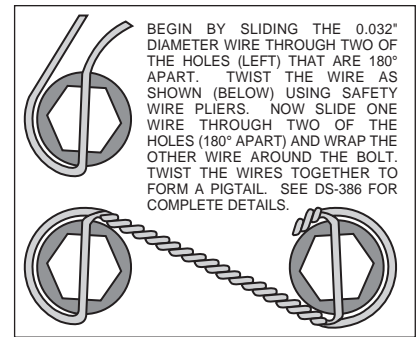

Figure 3. Safety Wire Diagram
- The caliper mount bracket assembly (1) should be installed first with clean, dry threads on the mounting bolts. Install the bracket by sliding bolt (4) through washer (2) from the back side through the lower caliper mounting ear on the spindle. Slide bolt (3) through washer (2) from a 90° degree angle on the upper portion of the steering arm. The bracket must tighten squarely against the outboard side of the caliper mount bosses on the spindle body. Inspect for interference from casting irregularities, machining ridges, burrs, etc. Later, after the caliper, pad, and rotor alignment has been checked, and any necessary shims have been put in place, the threads of the mounting bolts should be coated with red *Loctite*® 271 and torqued to 65 ft-lbs.
- Install wheel studs (5) into the hub (6). Torque to 77 ft-lb. **NOTE:** *There are two (2) five lug patterns in the hub (5 x 4.50 and 5 x 4.75).* Make sure of the correct hole pattern for the correct wheel application before installing studs into hub.
- Pack the large inner bearing cone (7) with high temperature disc brake bearing grease (available from your local auto parts store) and install into the backside of the hub (6).
- Install the grease seal (8) by pressing into the backside of the hub (6).
- Pack the small outer bearing cone (14) with high temperature disc brake bearing grease and install into front of hub (6). Slide the hub assembly (5, 6, 7, 8 and 14) onto the spindle. Secure using spindle washer (15), stock adjusting nut and nut locking device. Adjust bearing using a 12" wrench to tighten the adjusting nut while turning the rotor. When the rotor binds slightly, all the bearing parts are seated properly. Back of the nut 1/6 to 1/4 of a turn or enough to allow 0.001 to 0.007 end play. Lock the nut with a new cotter pin. **WARNING:** *Failure to back off the adjusting nut may cause the bearing to run hot and be damaged, which could cause the wheel to lock or come off during operation, creating a risk of serious bodily harm.*
- Install the o-ring (16) on the dust cap (17), and screw dust cap assembly onto the hub (6). Friction created by the o-ring (16) on the dust cap (17) keeps it from unscrewing.
- With the larger I.D. side of the rotor (9) facing away from the hat (10), bolt rotor (9) to hat(10) through the backside of the rotor using washers (11) and bolts (12). Using an alternating sequence, apply red *Loctite*® 271 to the threads and torque bolts to 155 **in-lb**. For an added measure of security, the bolts may be safety wired using standard 0.032 inch diameter stainless steel safety wire as shown in Figure 3. Please refer to Wilwood's data sheet DS-386 (available at [www.wilwood.com/Pdf/DataSheets/ds386.pdf](http://www.wilwood.com/Pdf/DataSheets/ds386.pdf)) for complete safety wire installation instructions.
- Slide the rotor/hat assembly over the studs (5) in the hub (6) taking care to align the small countersunk holes in the hat (10) with the small threaded holes in the hub (6). Install three flat head socket head screws (13) through the small holes in the hat (10) and torque to 85 **in-lb**.